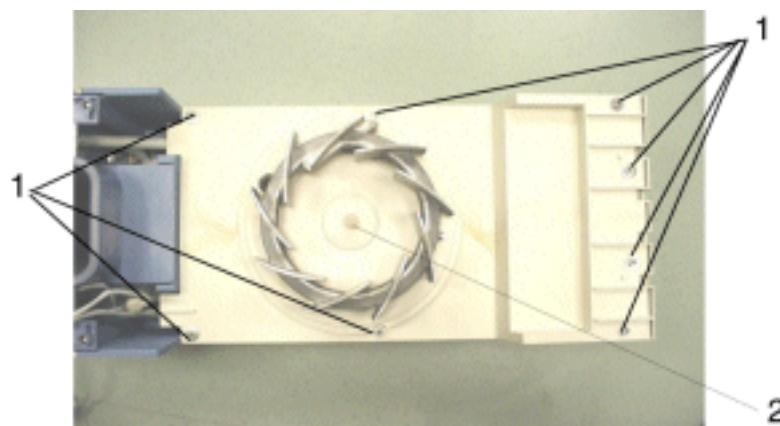

Fig. 160 Front view of the air heater
6. Carefully remove rubber sleeve (2) from shaft of fan motor, see Fig. 160.
7. Remove screws and washers (1), see Fig. 160.